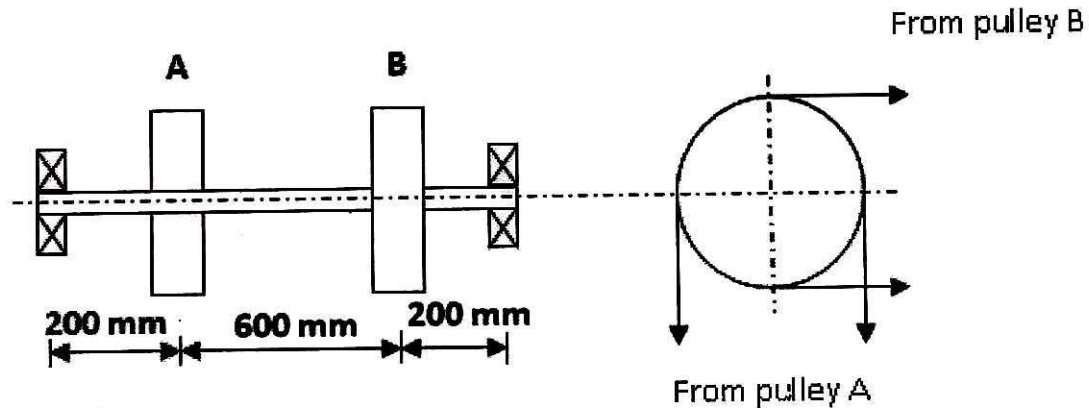

Fig. 2
3. A shaft is supported on two bearings which are 1 m apart as shown in Fig. 2. Two pulleys A and B are keyed to the shaft. The diameter of both the pulleys is 500 mm with 180° overlap. The two belt directions which are perpendicular to each other. The maximum belt tension in any belt is 2500 N. The ratio of belt tension is 2.2. The shaft is made of steel with ultimate tensile strength of 800 N/mm^2 and tensile yield strength of 500 N/mm^2 . The shock factors in bending and torsion are 1.5 and 1 respectively. Design a solid shaft as per A.S.M.E. code. [18]